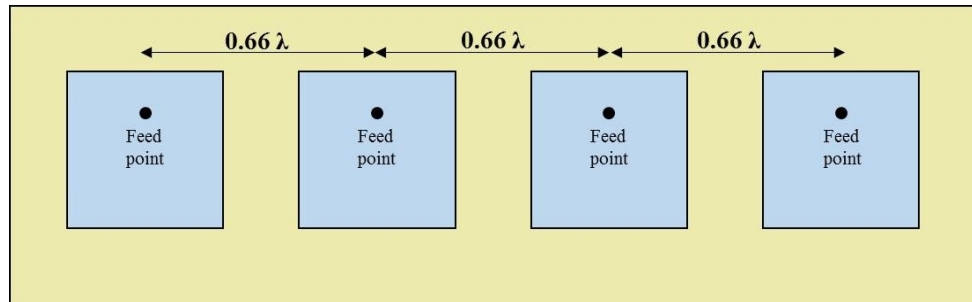

Figure 11 The distance between antenna elements
14. Locate the PCB type feed metal cells and PCB type metal cells over the beige dielectric cells in order to build 1X4 patch array. The patch antenna in this experiment has the same dimensions with the patch antenna experiment. Check if the interelement spacing is approximately 0.66λ (at 2460 MHz) as in Figure 11.